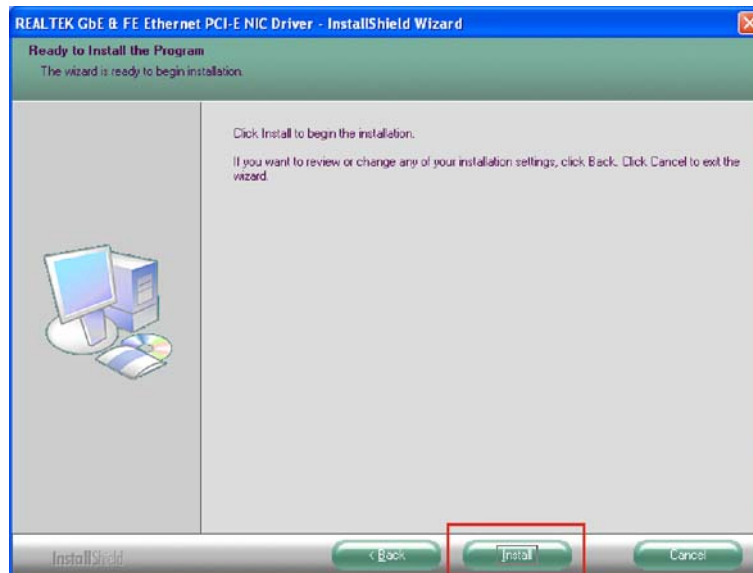

Figure 6-16: Gigabit Ethernet Begin Installation
Step 6: The installation window appears (Figure 6-16).
Step 7: Click **INSTALL** to begin installing the drivers (Figure 6-16).